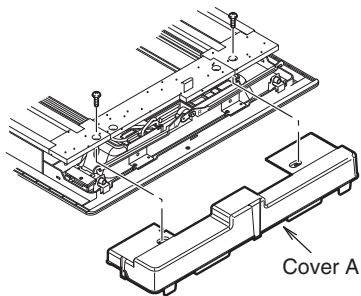

Fig. 8-15
- (1) Remove the 2 screws and remove cover A from the back of the panel. (Fig. 8-15)